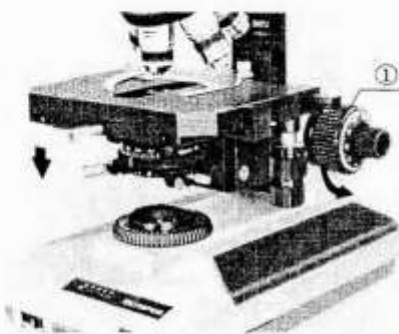

Fig. 6
- 1) Rotate the coarse adjustment knobs ① in the direction of the ARROW to rack down the stage so that a specimen slide can be placed on the stage. (Fig. 6)